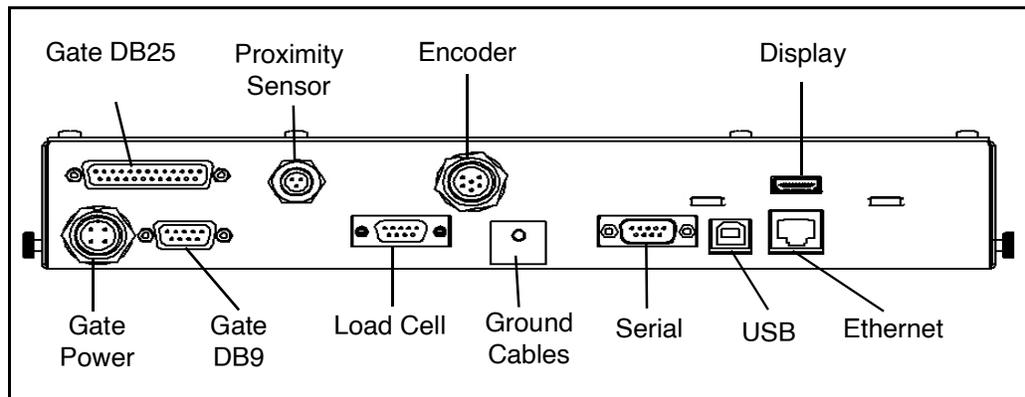

Figure 58
6. Disconnect all connectors that are attached to the controller box (refer to Figure 58 as needed), as follows: